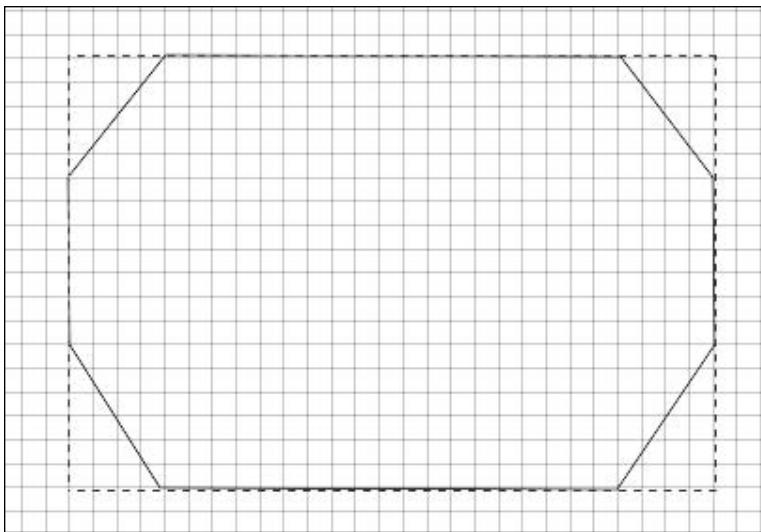

Figure 14-4:
4. Select the Draw Bezier Curves and Straight Lines tool (refer to the upper right corner of Figure 14-4) and draw the basic outline of your shape.